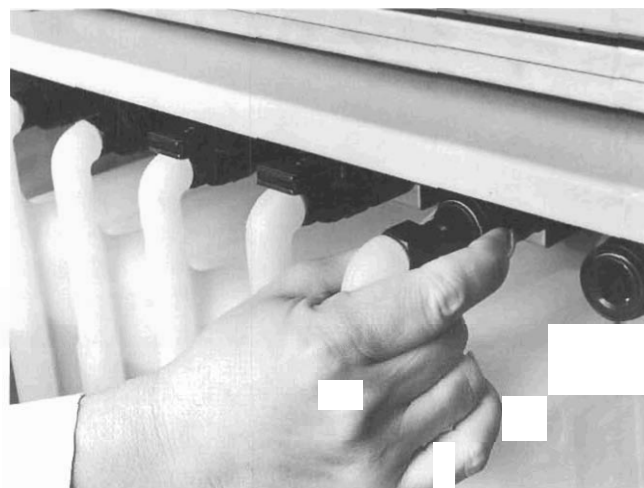

Figure 2-8
- Press back on the slide ring; at the same time, push the bottle in until the nozzle is fully seated in the connector (Figure 2-8), and release the slide ring.